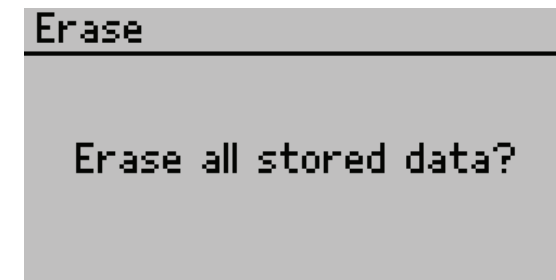

Figure 15 Warning confirming to erase all stored data
- The following warning will appear (Figure 15).